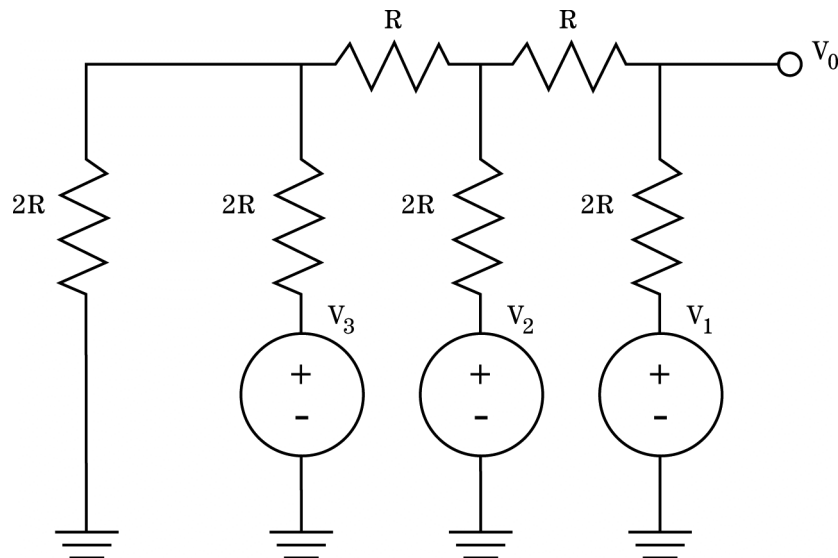

Figure 1
She has decided that the most efficient way to transmit the data is via an analog signal. This means the design must include a D/A (digital to analog) converter on the remote end, and a way to decode the data back into a format that can be read from a display by the system operator. To reduce the design time, she has divided her assignment into two parts. She will design the circuit to decode the analog signal and generate an appropriate display. She has assigned the D/A problem to you. Her specifications are that each increment in the binary number is to be represented by a 1 V increase in the signal on the conductor, e.g., a remote  $001_2$  produces 1 V, and a  $101_2$  produces 5 V. Your supervisor has told you the polarity of the signal doesn't matter. Luckily, she provided a terrific hint on a possible solution by recalling a circuit she built in college, an R-2R ladder circuit. On the back of an envelope, your supervisor drew a schematic similar to that of Fig. 1.
In your lab journal, provide a detailed circuit analysis that shows that the Thévenin equivalent of the circuit of Fig. 1, defined at  $v_o$  to ground, is:
Let the resistance R, in Fig. 1, equal 5.0 kΩ. Design an OP AMP interface circuit for the R-2R ladder that will properly scale the signal to the specified voltage levels.
- a) With the power off, connect the circuit of Fig. 1. The goal is to measure vo for every possibility in Table 1. Simulation of the two TTL signal levels (0 and 1) for v1, v2, and v3 is accomplished by applying either 0 V or 5 V to the appropriate places in the circuit. Figure 2a shows an example of how this may be accomplished for v3 = 5 V, v2 = 0 V and v1 = 5 V. Simply by connecting to “A”, 0 V is applied. To obtain 5 V, the resistor is connected to “B” as shown in Fig. 2b.